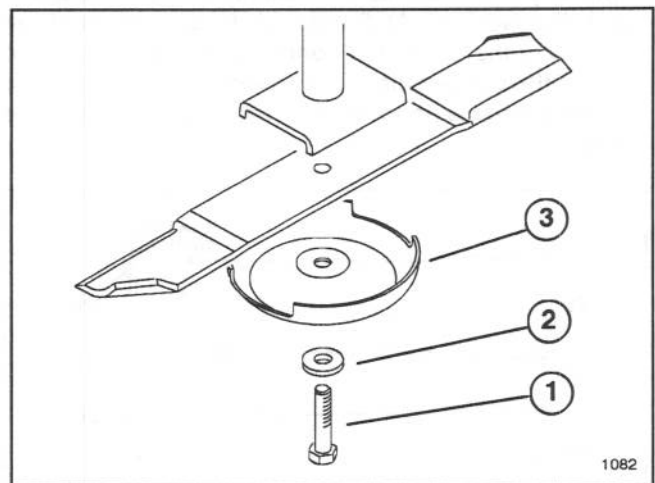

Figure 13
2. Hold the blade end using a rag or thickly padded glove. Remove blade bolt, flatwasher, anti-scalp cup and blade from spindle shaft (Fig. 13).
3. Install blade-sail facing toward cutting unit with anti-scalp cup, flatwasher and blade bolt (Fig. 13). Torque blade bolt to 85–110 ft. lb.